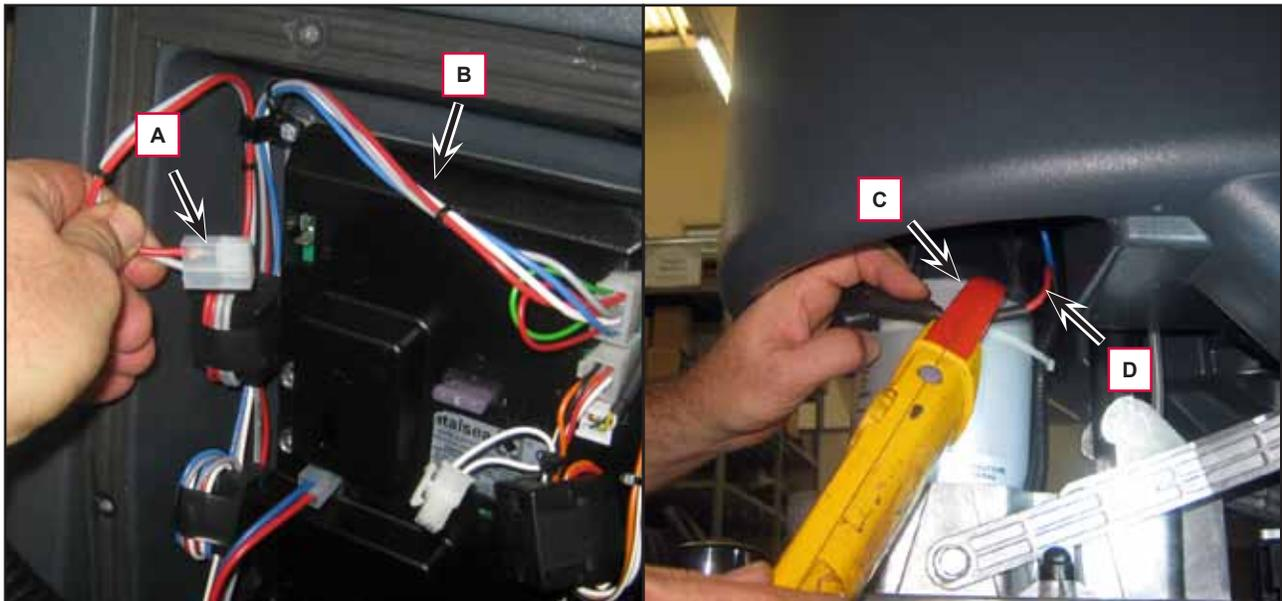

Figure 6
5. Disconnect the drive system connector (A) (Figure 6) on the function electronic board (B) to disable machine movement.
8. Apply the amp clamp (C) to an electrical cable (D) of the brush motor.
11. Remove the amp clamp (C).